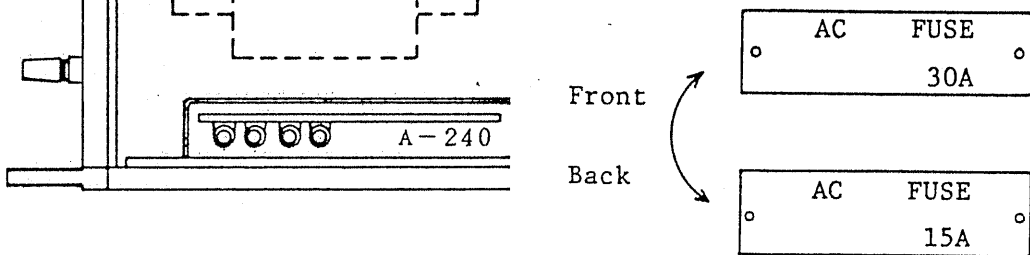

Figure 2-4
3. Change input voltage markplate. (See Figure 2-4.)